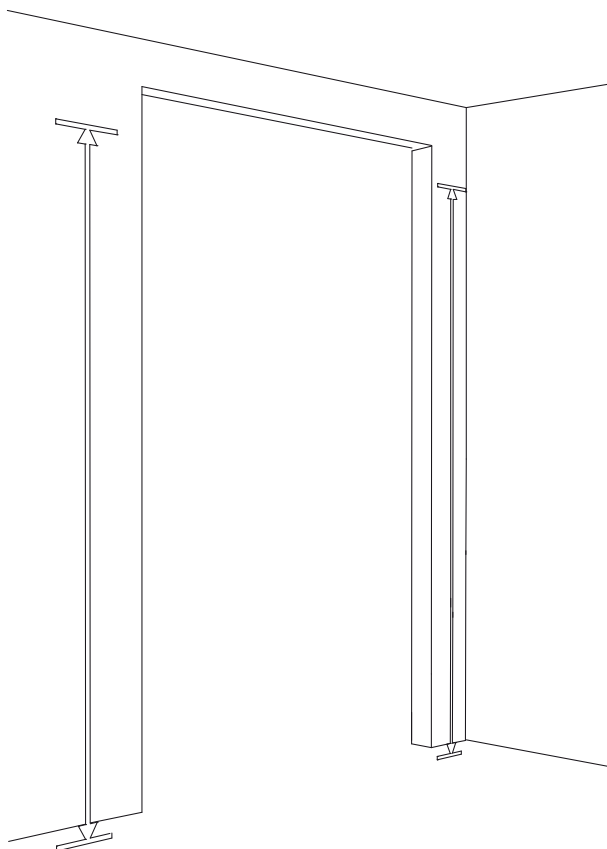

Fig: 2.2.1
- Using a laser level or water level, mark the position for the second bracket (**Fig 2.2.1**)